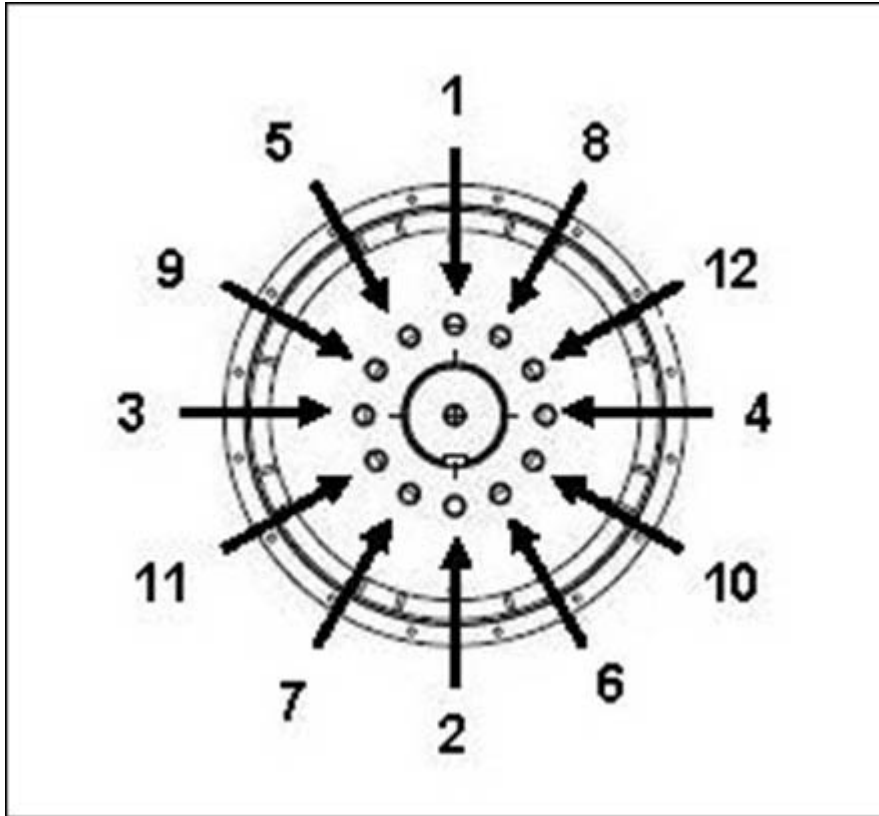

FIGURE 20. FIXING SEQUENCE TO HUB
4. If required, tighten the coupling disc bolts in the sequence shown in Figure 20 on page 44.